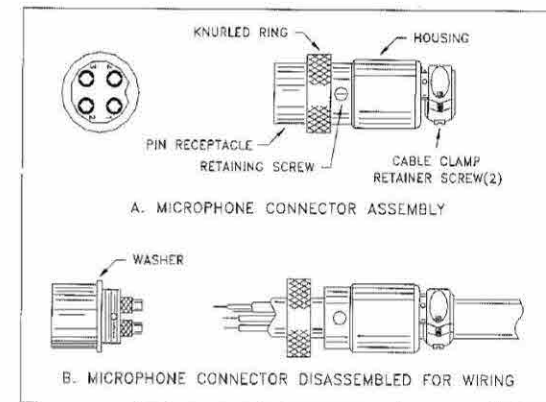

Fig. 2 Microphone plug wiring
4. Feed the microphone cable through the housing, knurled ring and washer as shown in Figure 2.
6. Be sure that the housing and the knurled ring of Figure 2 are pushed back onto the microphone cable before starting to solder. If the washer is not captive to the pin receptacle body, make sure that it is placed on the threaded portion of the pin receptacle body before soldering.